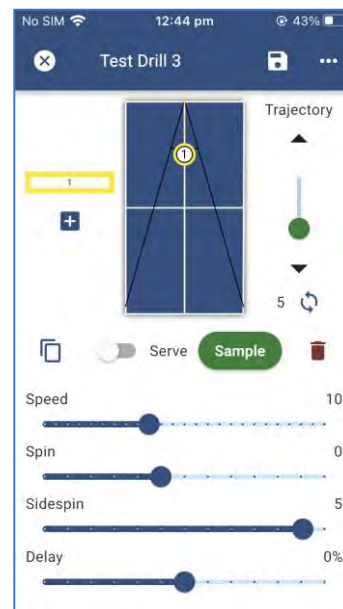

Figure 3-10
4. Verify and/or if necessary, change the Ball 1 settings so that the Speed=10, Spin=0, and Sidespin=5 (Figure 3-10).